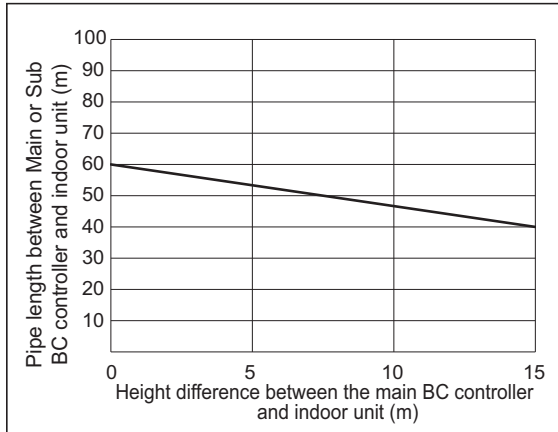

Fig. 2
*2. Details refer to Fig. 2.
*9. When the piping length or the vertical separation exceeds the limit specified in Fig. 2, connect a sub BC to the system.
When using indoor models P140 or larger, the restrictions shown in Fig. 2 cannot be exceeded.